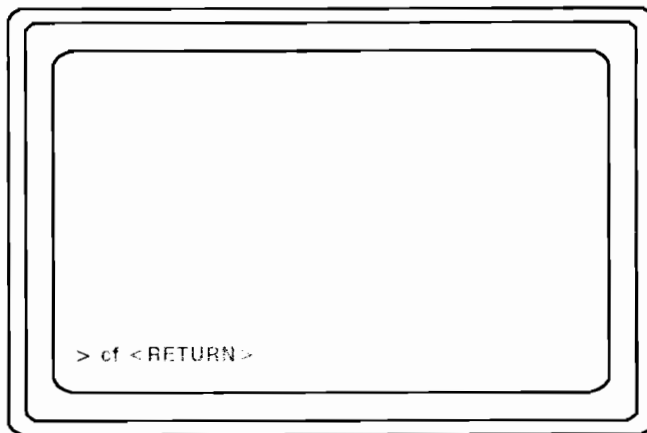

Figure 10-18. Entering the cf Command
2. Type the *cf* command as shown in Figure 10-18.